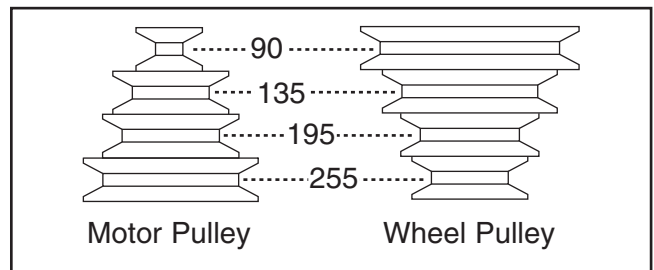

Figure 26. V-belt positions in FPM.
3. Slacken the V-belt and position on the pulley for the desired FPM (see **Figure 26**).